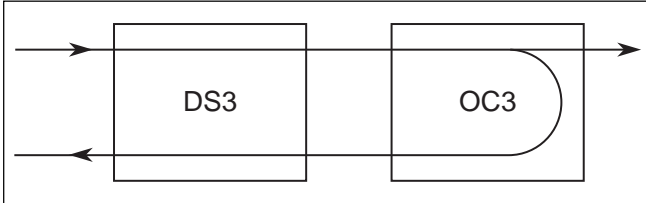

Figure 10. OC-3 Local Loopback
2. **OC-3 Local Loop** – Provides a loopback in the OC-3 interface for data being sent into the electrical DS3 interfaces. All DS3s are looped during this test. For this reason, APS MUST BE DISABLED before this test may be performed. See **Figure 10**.